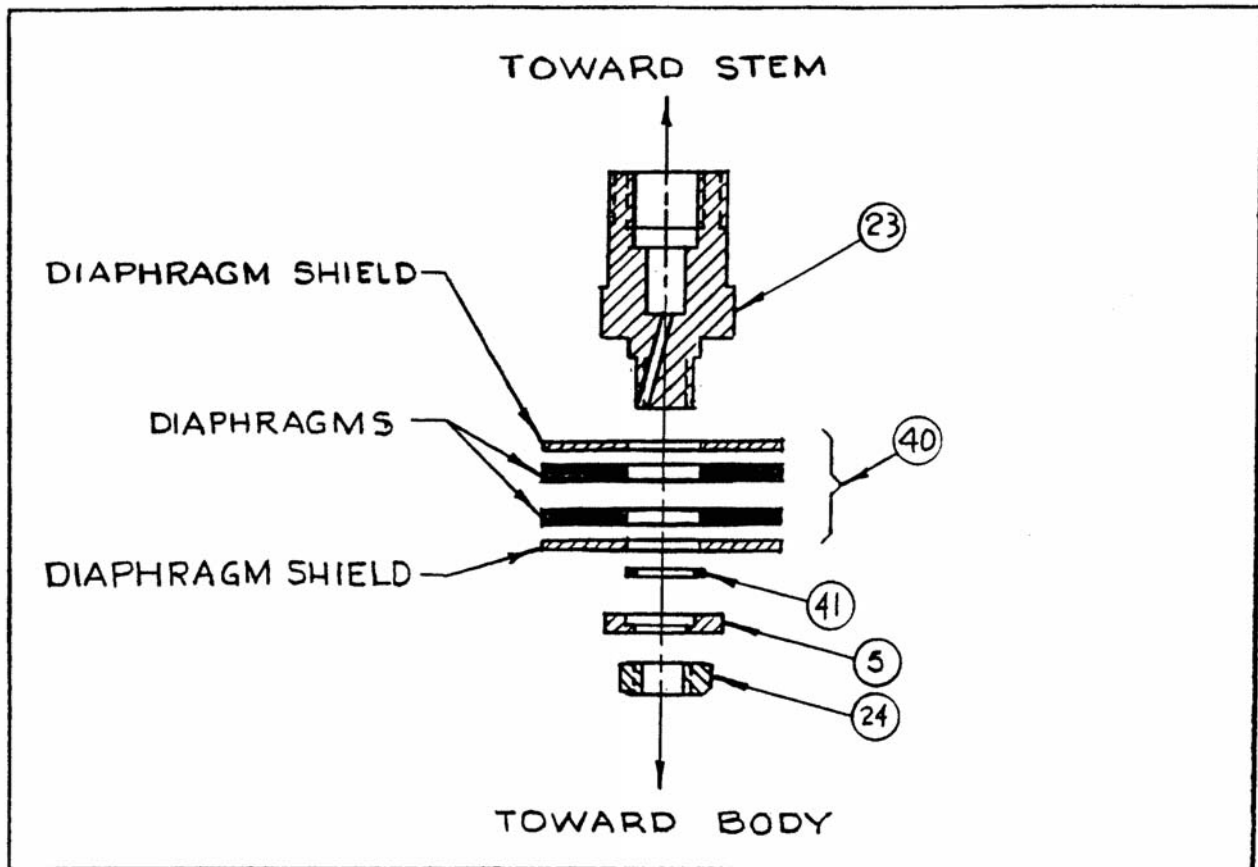

FIGURE 1: DIAPHRAGM BOLT SUBASSEMBLY
1. Install relief vale parts in diaphragm bolt (23).
- a. Insert spring (9) and valve (8) in diaphragm bolt recess.
- b. Insert pin (26) and valve seat (20) in relief seat retainer (12).
3. Mount diaphragm bolt (23) carefully in visa, gripping head of relief retainer in visa jaws.
4. Over threaded end of diaphragm bolt, mount four-piece diaphragm unit (4) and Kel-F grease gasket (41). Refer to Figure 1, sheet 12.
5. Install diaphragm plate (5) and nut (24) using torque per Table I to tighten nut.